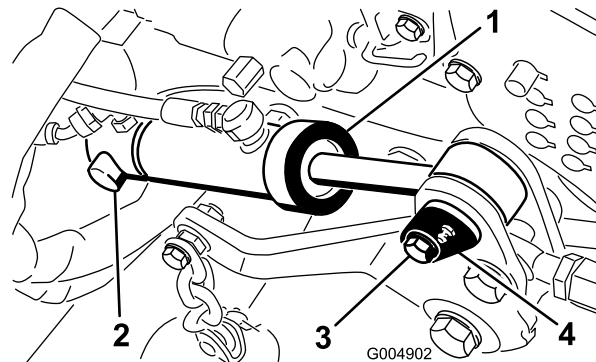
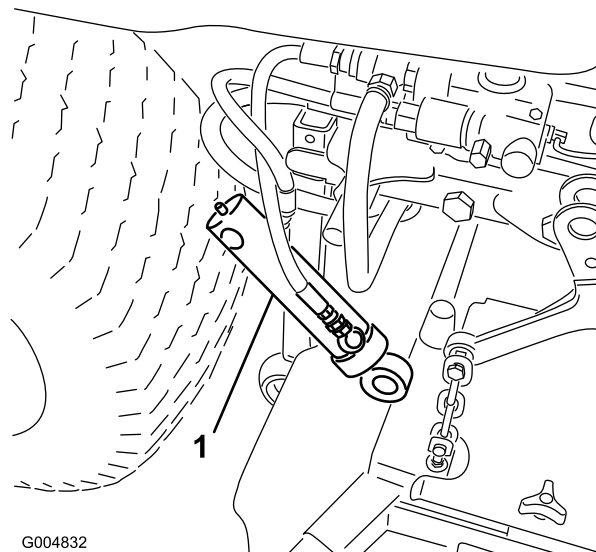

Figure 99
Figure 100
6. Remove the retaining ring securing the rear of the deck lift cylinder to the pivot pin (Figure 99).
7. Remove the screw securing the front cylinder pivot pin to the mower frame (Figure 99). Remove the cable tie securing the pressure and tank hoses.
8. Remove the front pivot pin and slide the cylinder off the rear pin (Figure 99). Let the cylinder hang out of the way on the hoses (Figure 100).